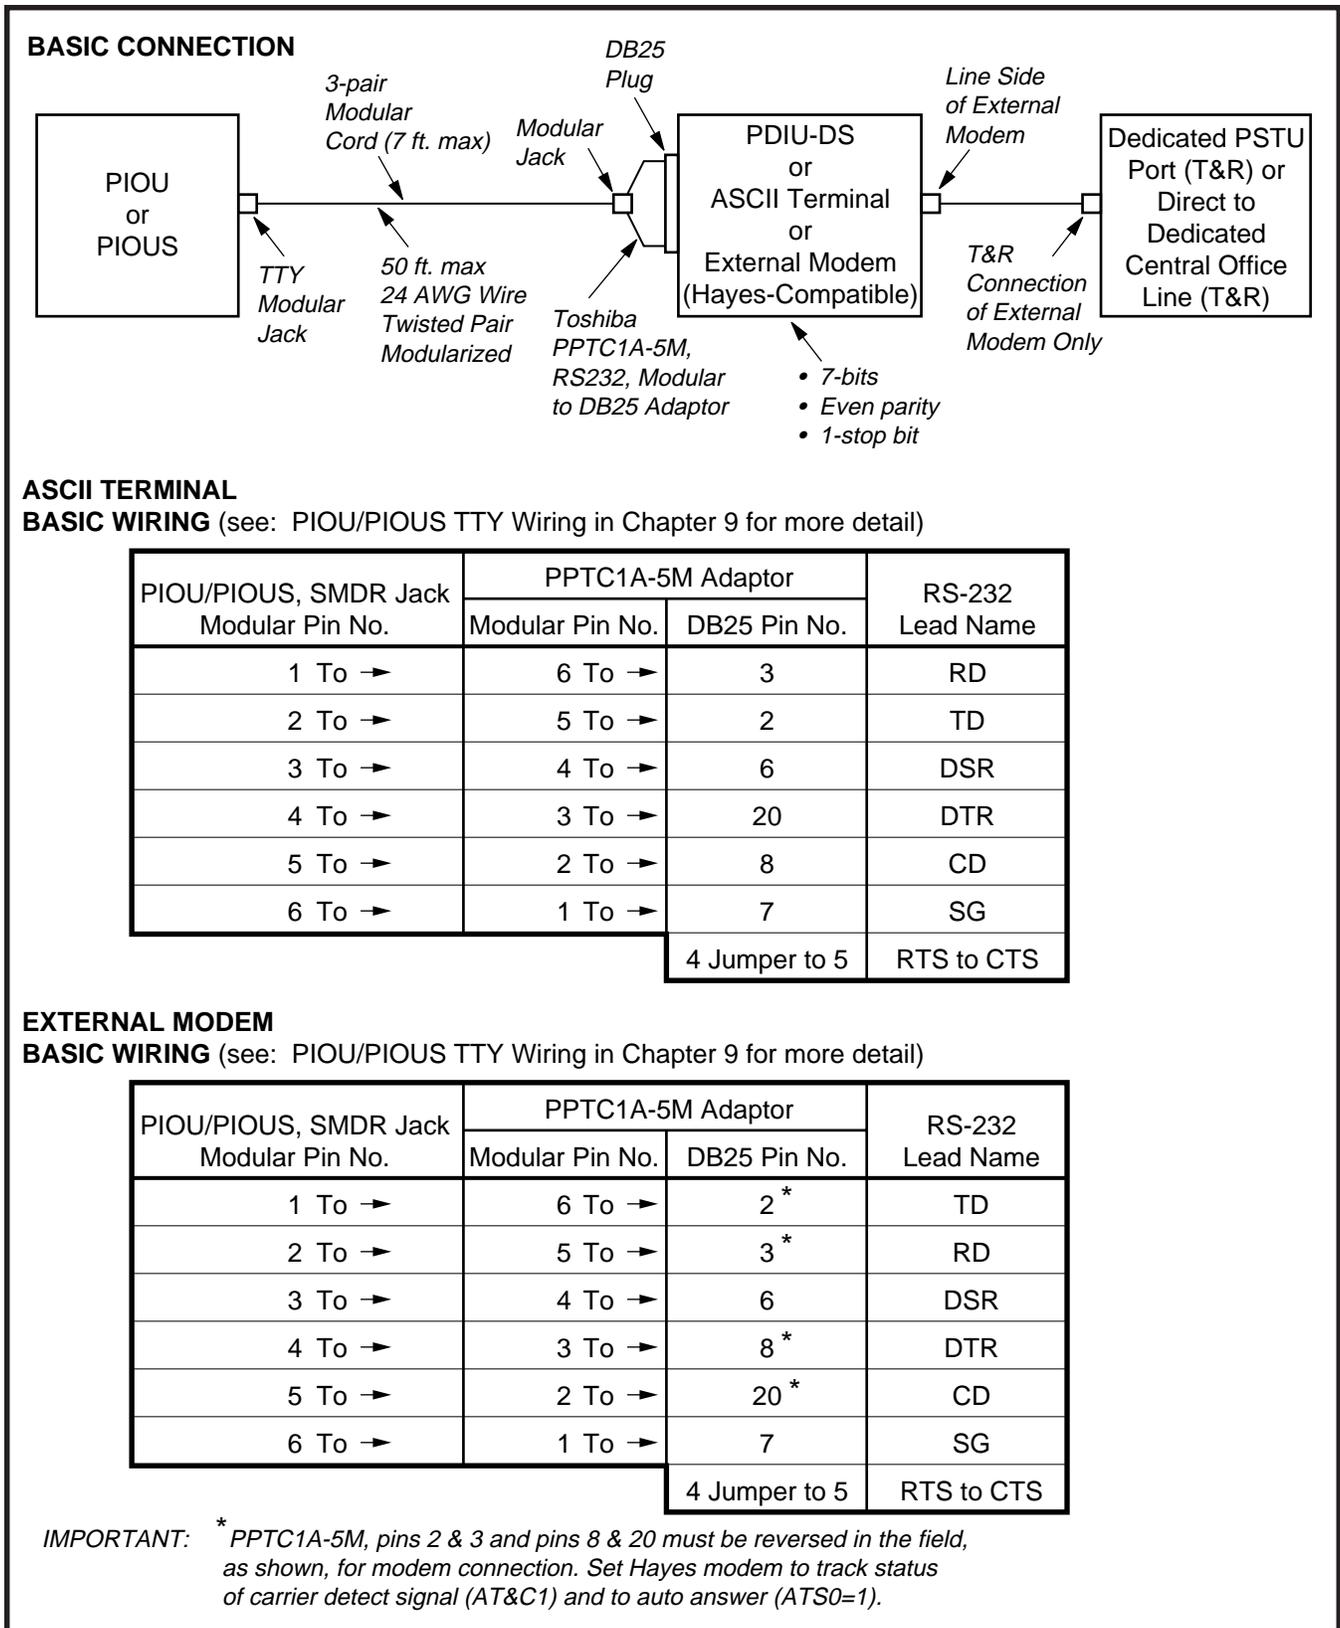

FIGURE 8-25
9.11 The STRATA DK system must be equipped with a PIOU or PIOUS PCB to support the maintenance terminal/external modem options. Connecting the maintenance terminal or external maintenance modem to the PIOU or PIOUS PCB is accomplished with a standard 3-pair modular cord and a PPTC adaptor connected to the PIOU or PIOUS TTY jack. (Refer to Figure 8-25.)
9.21 Install the ASCII terminal in accordance with the following steps: (Refer to Figure 8-25.)
Install the external modem in accordance with the following steps: (Refer to Figure 8-25.)